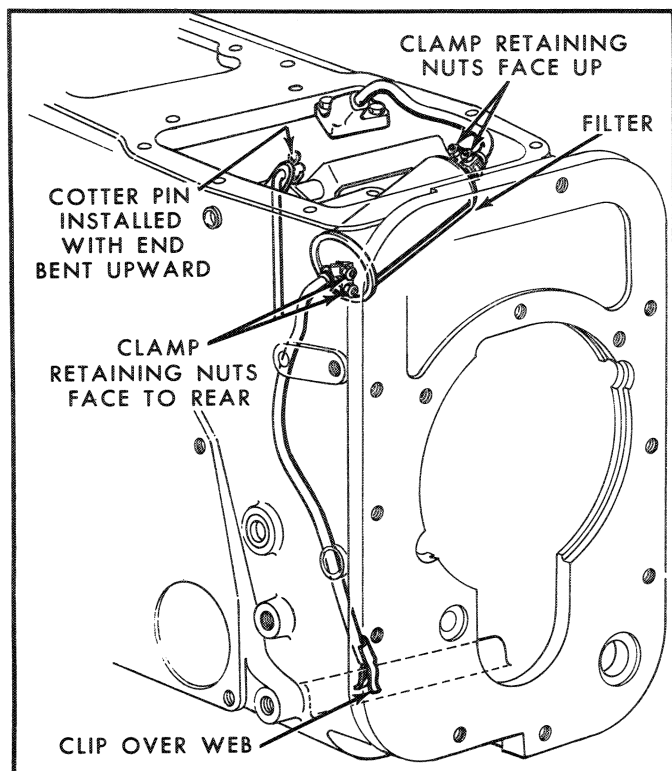

Figure 35
1. Assemble the filter inlet tube and flange to the inlet end of the filter can marked “IN” with the clamp, as shown in Figure 35. Make certain that the nuts of the retaining clamp are facing up and are loose enough to rotate the tube on the can.